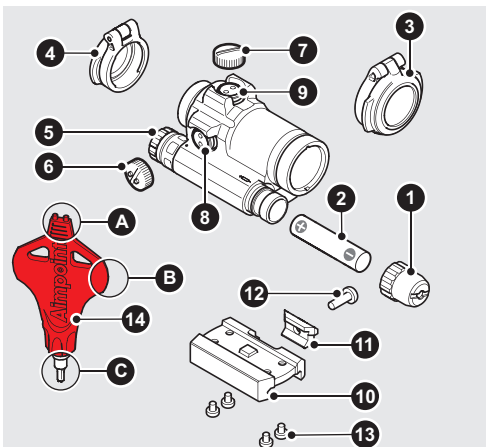

Fig. 1 Overview (configuration)
Configuration (as shown in Fig. 1)	207 g / 7.3 oz
Configuration (as shown in Fig. 1)	30 mm / 1.2 in (measured from top surface of picatinny rail)
- a Remove the front lens cover (3) by pushing on the hinge in the direction away from the sight.
- b Untighten and remove the battery cap (1). If necessary, use the tool (14 B).
- c Insert battery (2) with the negative end (-) toward the battery cap (1) and the positive end (+) toward the sight as shown in Fig. 1.
If the sight is equipped with the mount shown in Fig. 1, follow the described procedure. For installation with other mounts, see accompanying instruction.